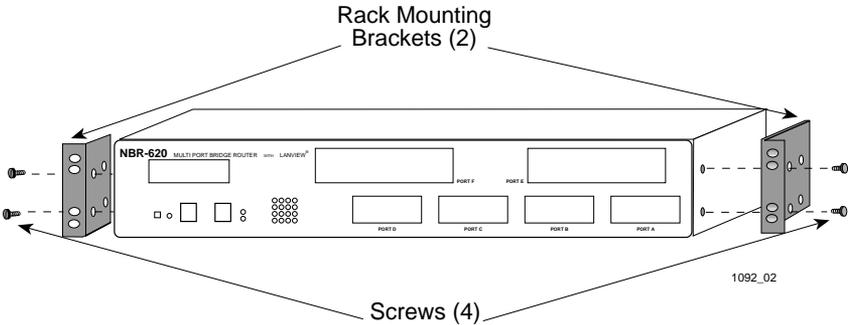

Figure 3-8 Rackmount Brackets Installation
1. Remove four cover screws (two from each side) located along the front edges of each side of the NBR. See Figure 3-8.